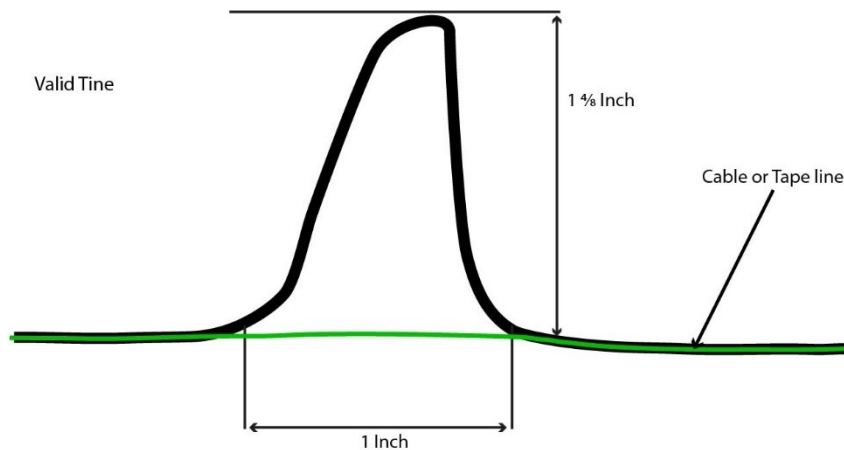

Figure 4
B) The length of a valid tine must be equal to or more than its width. In other words, a tine on a moose with a length of $1\frac{2}{8}$ inch with a base of 2 inches does not qualify as a valid tine. (Figures 4 and 5) Another example: a tine of $\frac{8}{16}$ inch in length on a roe deer with a base of $\frac{9}{16}$ inch not does qualify as a valid tine.